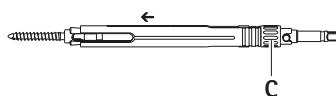

Fig. 5
- Slide outer sleeve **A** in the direction of the pedicle screw and with fixing screw **C** clamp pedicle screw in clamping sleeve **2**, see Fig. 5.